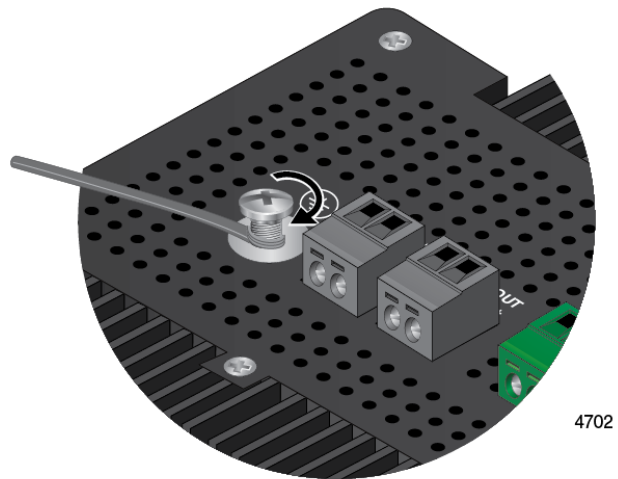

Figure 36. Wrapping the Grounding Wire Around the Grounding Screw
3. Wrap the grounding wire clockwise around the base of the grounding screw. Refer to Figure 36.